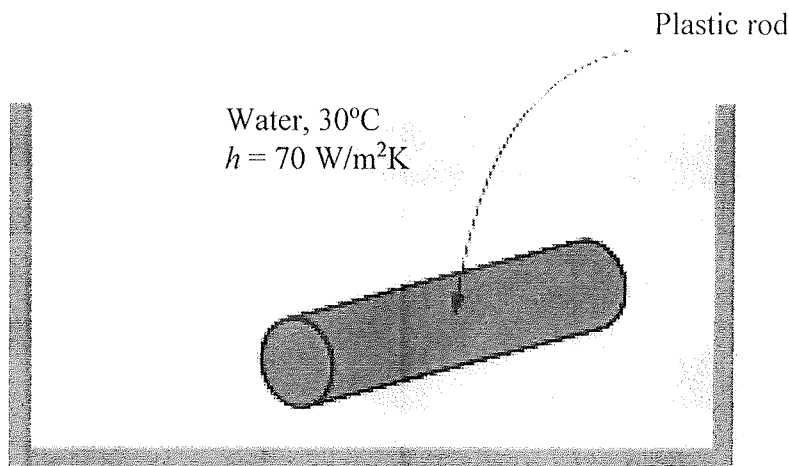

Figure 2. Water bath with plastic rod
- [c] In a quench hardening process during extrusion procedure, a plastic rod ($\rho = 950 \text{ kg/m}^3$, $c_p = 2300 \text{ J/kg.K}$ and $k = 0.63 \text{ W/m.K}$) is heated to a uniform temperature of 200°C and then extruded into a water bath (Fig. 2). The water bath has a uniform temperature of 30°C and convection heat transfer coefficient of $70 \text{ W/m}^2\text{K}$. If the plastic rod has a diameter of 3 mm and a length of 0.5 m , determine the time required to cool a plastic rod from 200°C to 50°C in the water bath.